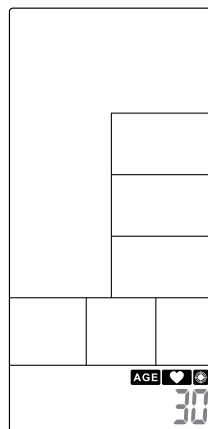

Figure 45
- ① In Standby mode, press Target Heart-Rate key and **AGE** will light up, along with along sound for 1s.
- ② AGE value is flashing, press UP and DOWN to preset your Age (Figure 45). Press ENTER to confirm along with buzzer beeps 1S and last lighting up.